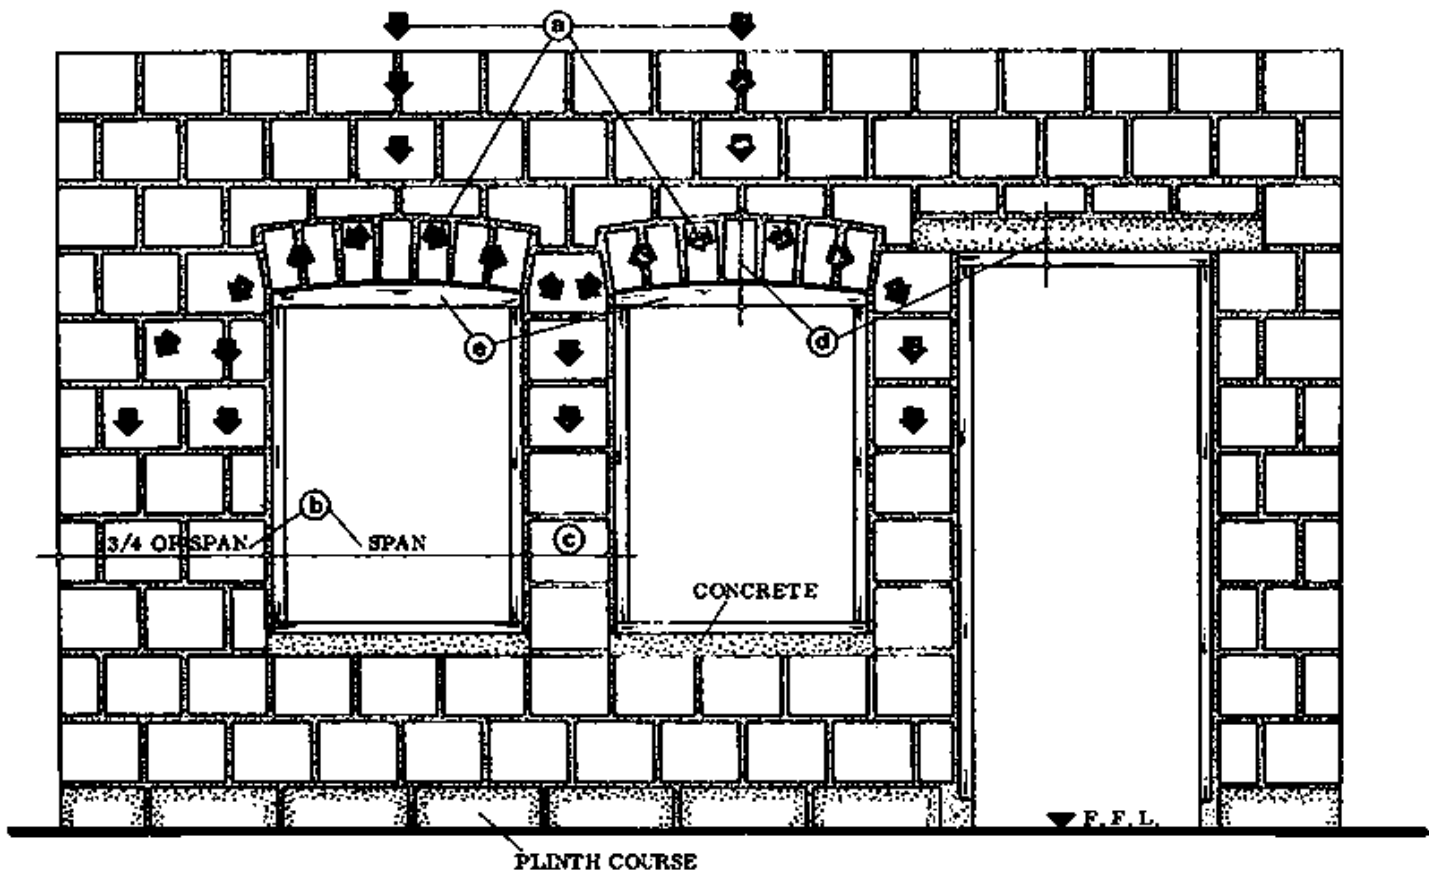

Fig. 1
All arches, regardless of their shape or dimensions, function as wedges. An arch distributes the load imposed on it to the abutments on both sides; these have to be strong enough to withstand the pressures (Fig. 1, a). This is the reason why the abutment which is at the corner or end of a wall must be at least as wide as 3/4 of the span of the arch (Fig. 1, b). Between two arches, thinner supports such as columns or piers can be used (Fig. 1, c).
- All arches, especially those which have unusual shapes, require more space than a lintel (Fig. 1, d).
- Frames must be shaped on their top according to the curve of the intrados (Fig. 1, e); or if a square frame is to be fitted, the remaining space above it must be closed with plywood etc.